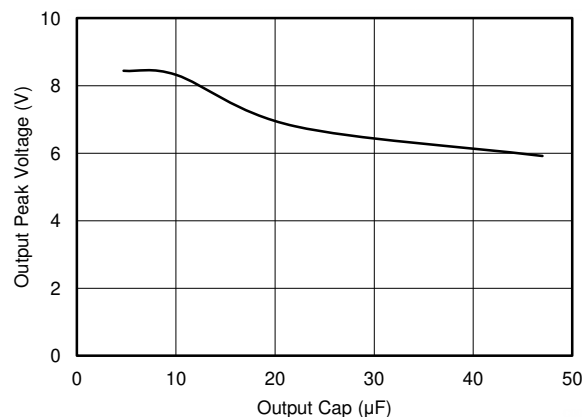

图 9-3. V_{OUT} Peak Voltage vs C_{OUT} (V_{IN} Step From 5 V to 15 V with 1-V/μs Ramp Up Rate)
When V_{IN} ramp up exceed 7.6 V, V_{OUT} follows V_{IN} until the TPS25200 turns off the internal MOSFET after $t_{(OVLO_off_delay)}$. Since $t_{(OVLO_off_delay)}$ largely depends on the V_{IN} ramp rate, V_{OUT} sees some peak voltage. Increasing the output capacitance can lower the output peak voltage as shown in 图 9-3.
- For output capacitance, refer to Figure 9-3, low ESR ceramic cap is recommended.